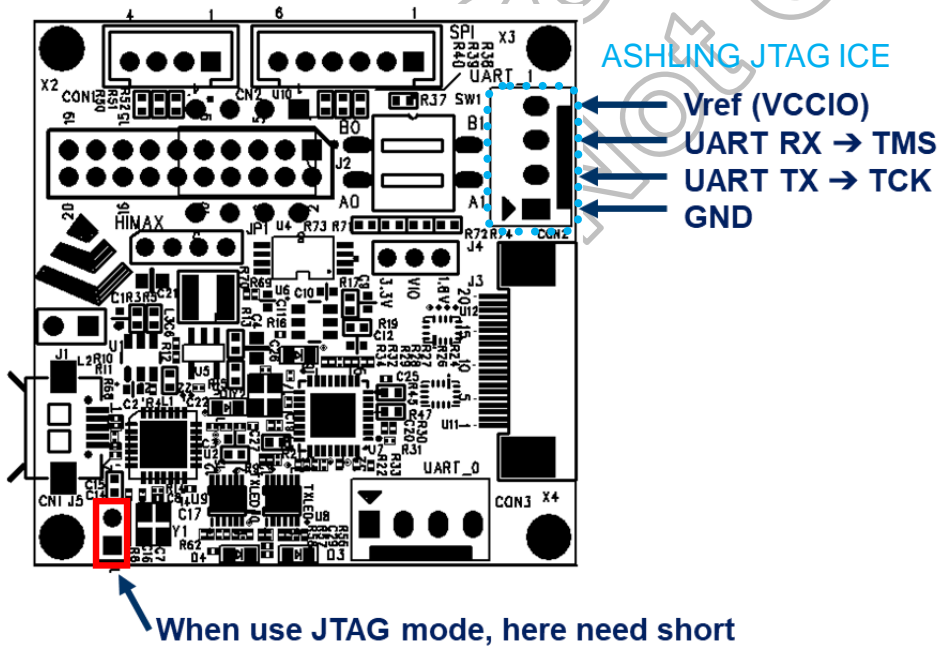

Figure 2.11: ASHLING JTAG ICE
- Item 3. ASHLING JTAG ICE (refer to Figure 2.11)